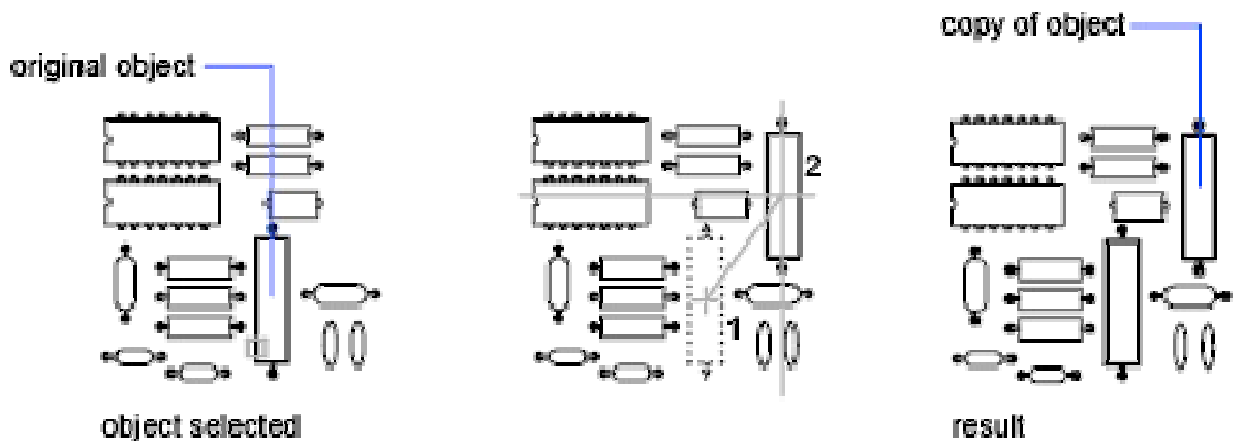

Figure 5.8 – Copy Objects
Copy an object using the distance and direction specified by a base point followed by a second point (fig. 5.8). In this example, you copy the block representing an electronic component. Click Edit menu > Copy. At the Command prompt, enter copyclip. Then select the original object to be copied. Specify the base point for the move (1) followed by a second point (2). The object is copied the distance and direction of point 1 to point 2.